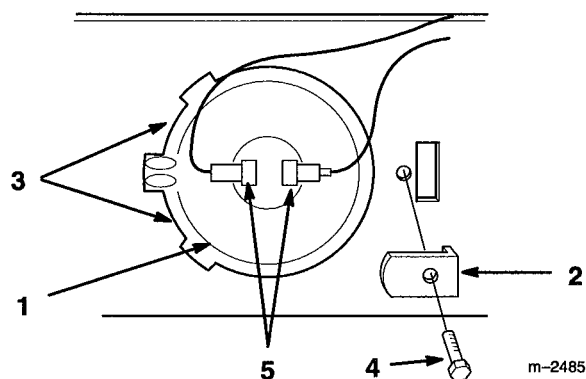

Figure 35
3. Remove screw securing retainer bracket (Fig. 35).
4. Lift and twist bulb out of pocket (Fig. 35).
1. Locate index boss horizontal and twist bulb under tabs on left side of pocket (Fig. 35).
2. Hold bulb in socket with retainer bracket and secure with screw (Fig. 35).
3. Push wire connectors onto bulb terminals (Fig. 35).